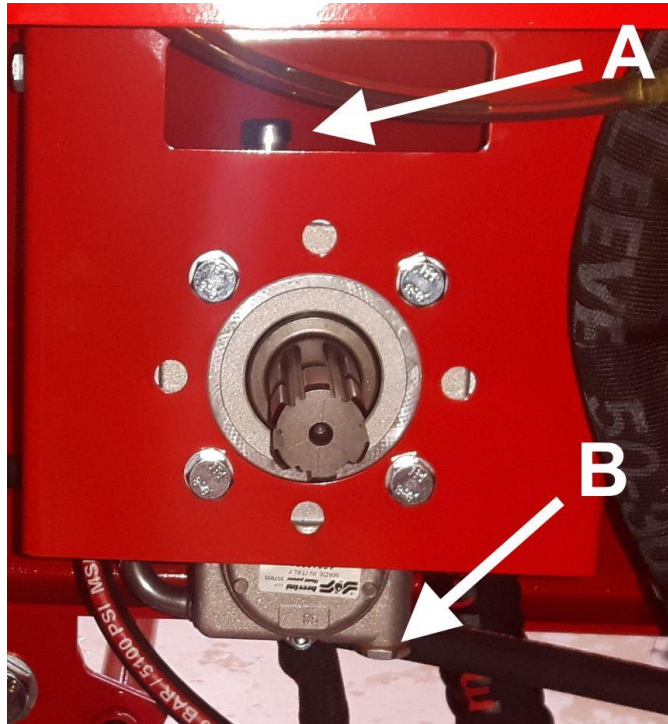

Figure 30.
6. Finally, close breather cap A (Figure 30).